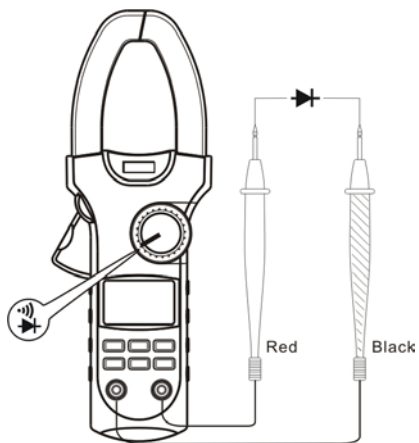

Figure 6
D. Testing Diodes (see figure 6)